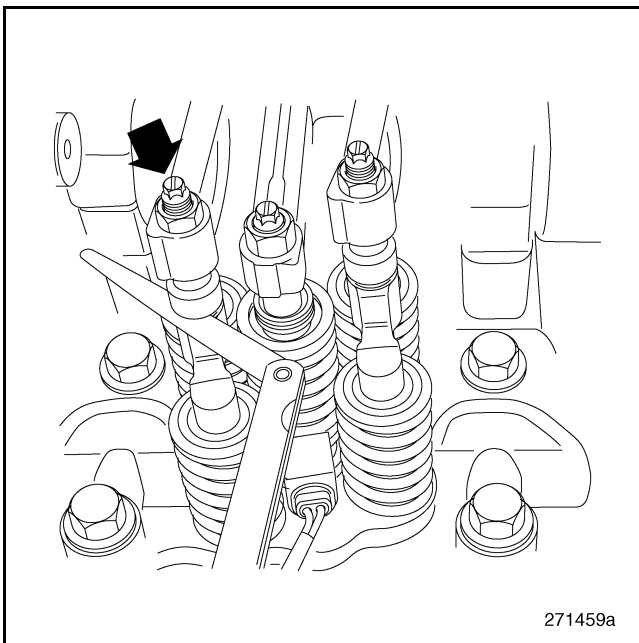

Figure 504 — Checking Inlet Valve Clearance
2. Using a feeler gauge, check the clearance between the rocker arm adjusting screw and the valve yoke (bridge) of the inlet valves. Refer to Figure 504.